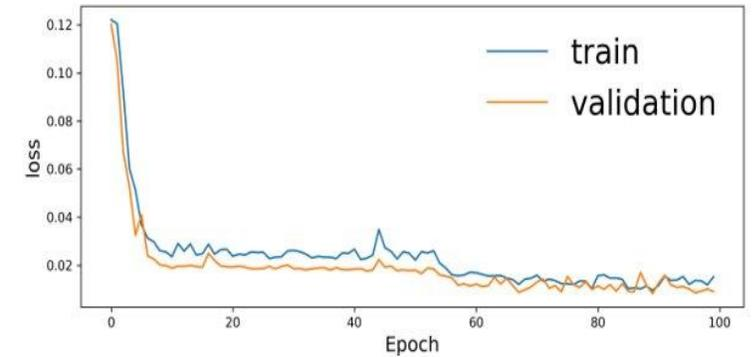

Figure 13. Loss values of VAE trained on CCL module
- Several scientific applications rely on a simple (1D line) loss curve which is computing the mean/sum of the loss for each epoch which produces a scalar, and then plot the loss values as a function of epochs as shown in Fig. 13 and 14.